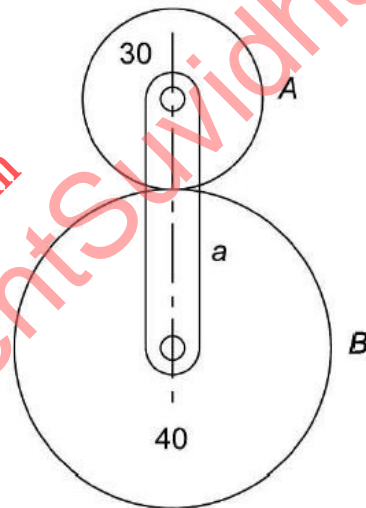

Figure 2
8. An epicyclic gear train consists of an arm and two gears A & B having 30 & 40 teeth respectively. The arm rotates about the centre of the gear A at a speed of 80 rpm counter clock wise (figure 2). Determine the speed of the gear B if